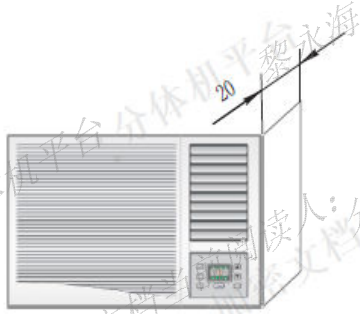

Fig.5
2. A clearance of 20 mm is advisable between the appliance cabinet and the wall. Fix the indoor air intake panel with the cabinet by employing two screws which packed in the packing bag as shown in Fig.5.